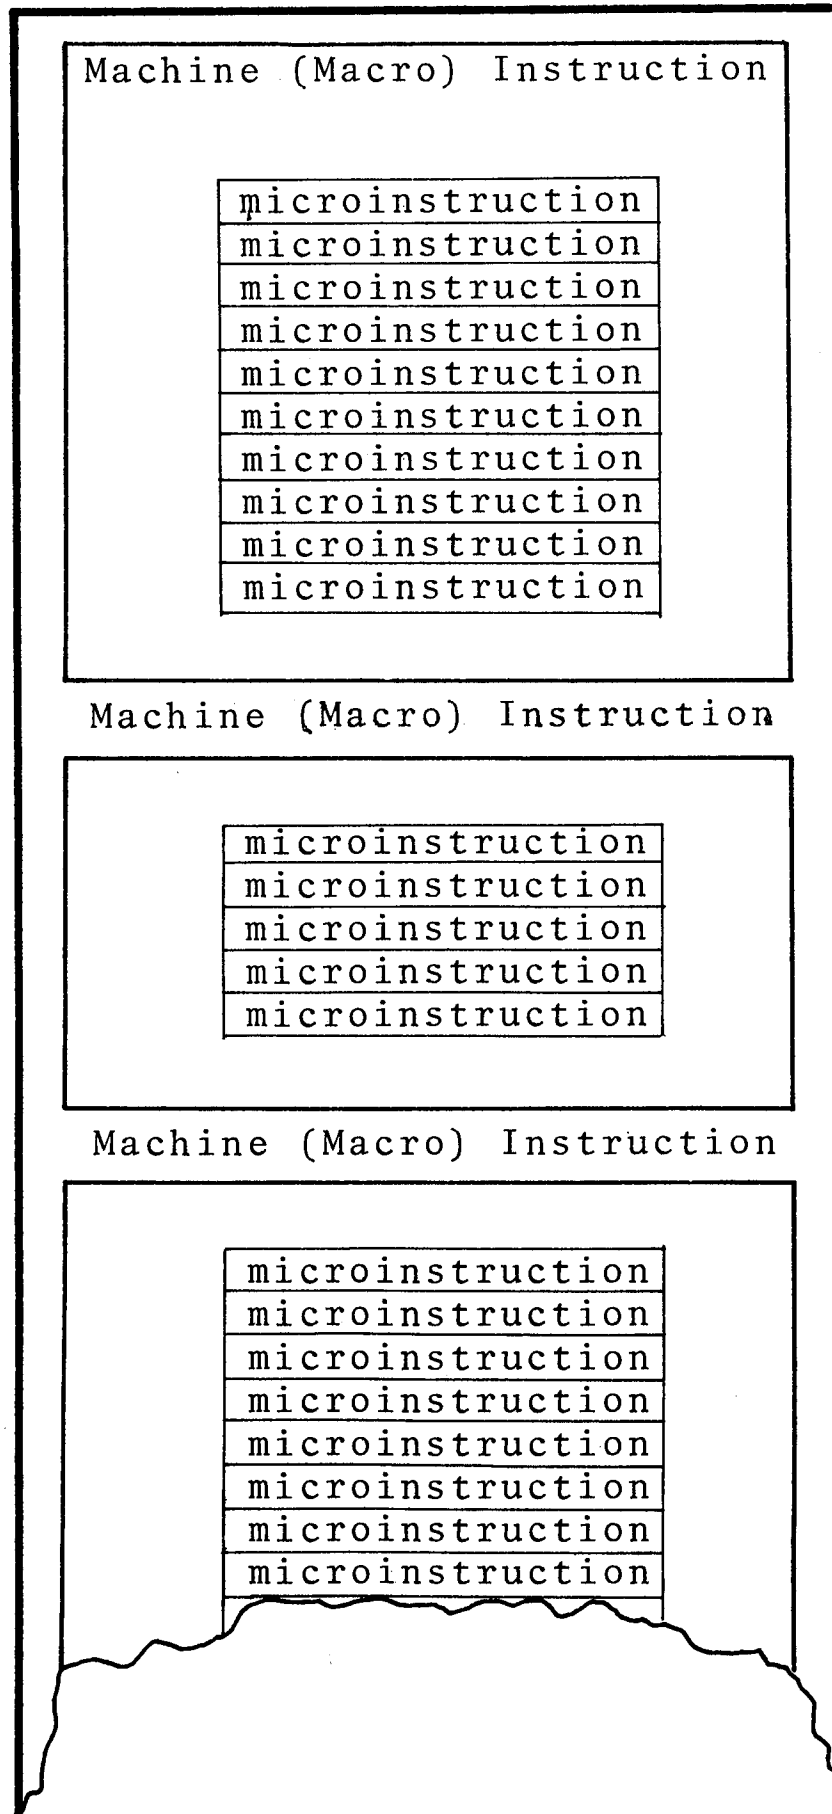

Figure 3-9. Software Language Relationship
The System 200/410 utilizes three different software languages, all of which are sub-sets of one another as shown in Figure 3-9. The relationship between these three (3) levels of software is analogous to the structure of a sentence; the letters are the micro-instructions, the words are the machine level (macro) instructions, and the sentence is the BASIC instruction.